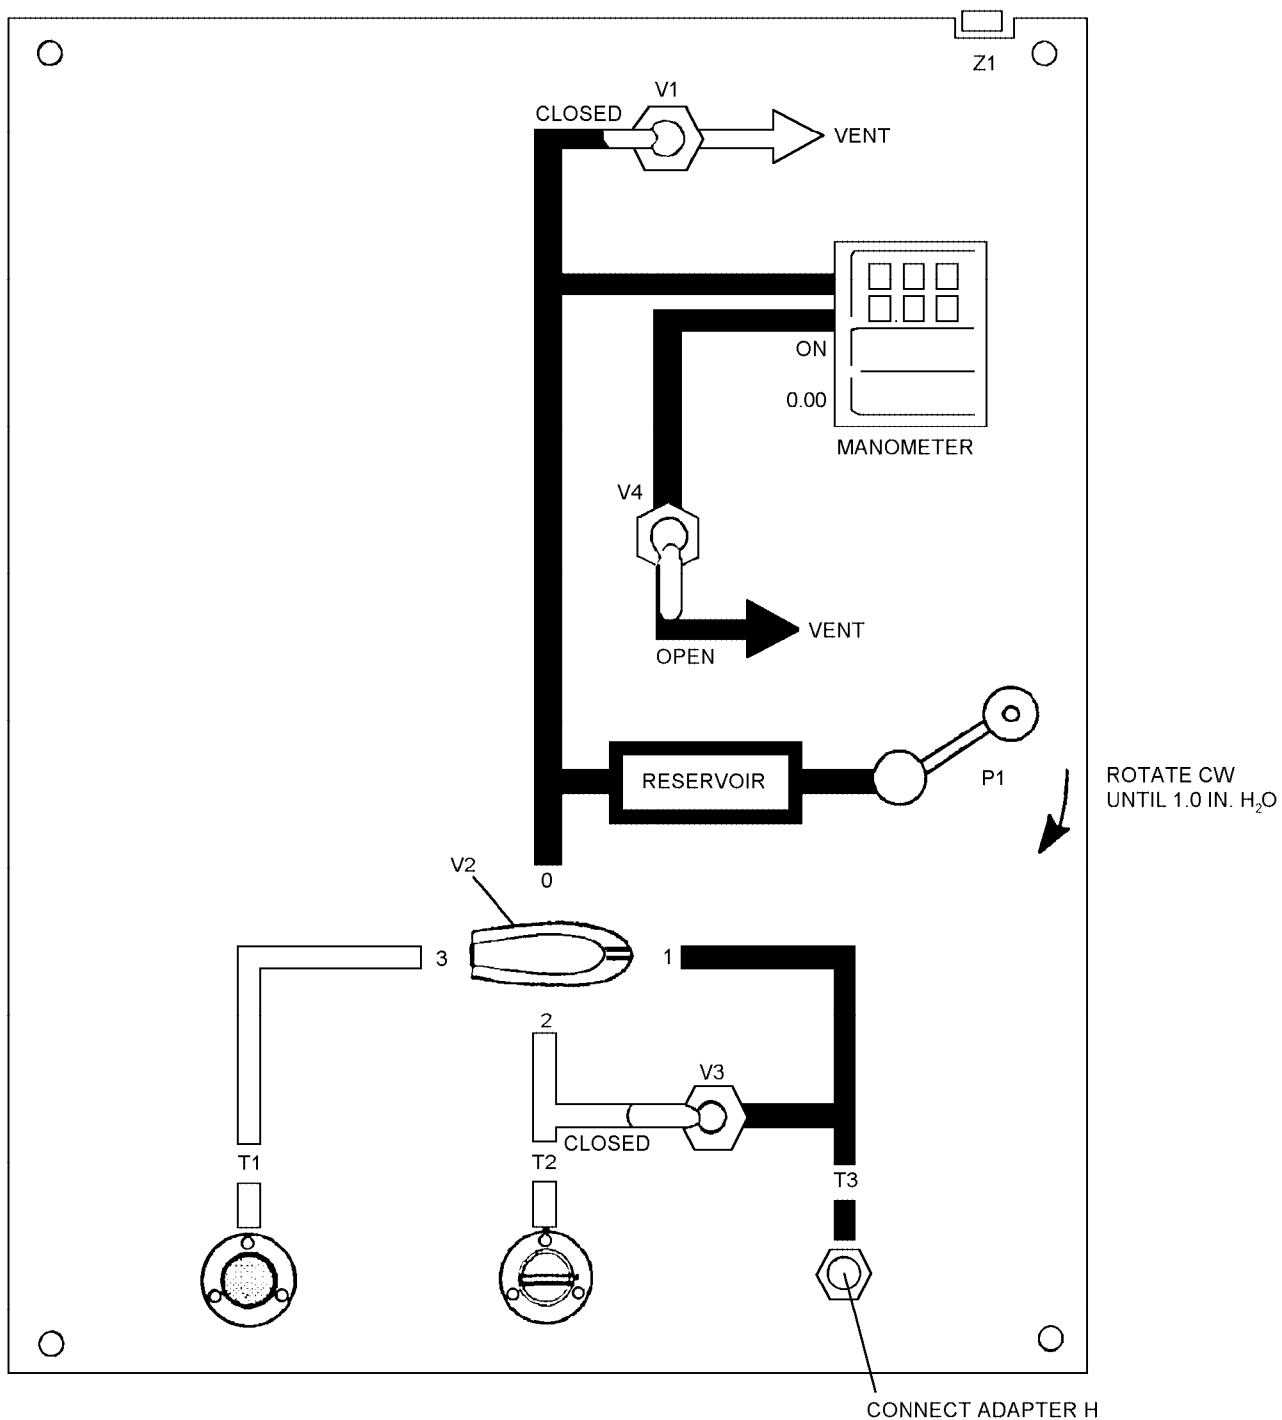

Figure 4-96. Exhalation Outlet Valve - Reverse Leakage Test
5. Connect free end of adapter H to T3 (figure 4-96).